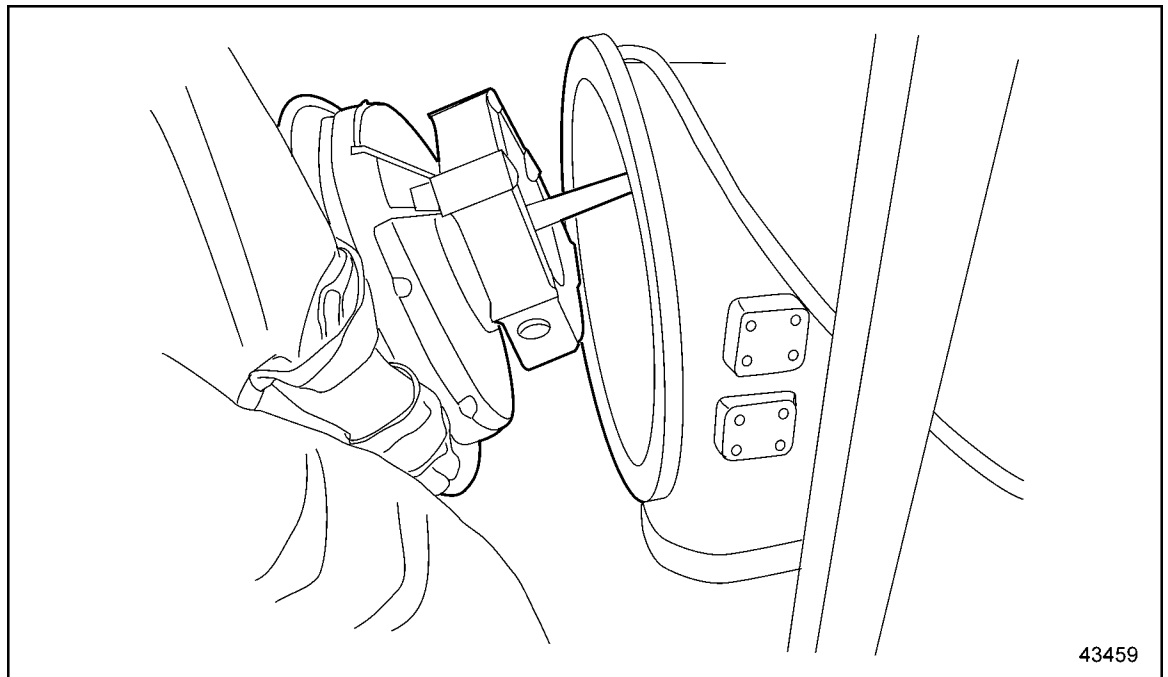

Figure 5 Install PTO Assembly onto Engine
11. Using the pulley bearing as a pilot for lining up the driveline shaft, carefully install the PTO assembly onto the engine, ensuring that the top coupling and hub boltholes line up and are accessible through the tool window. See Figure 5.